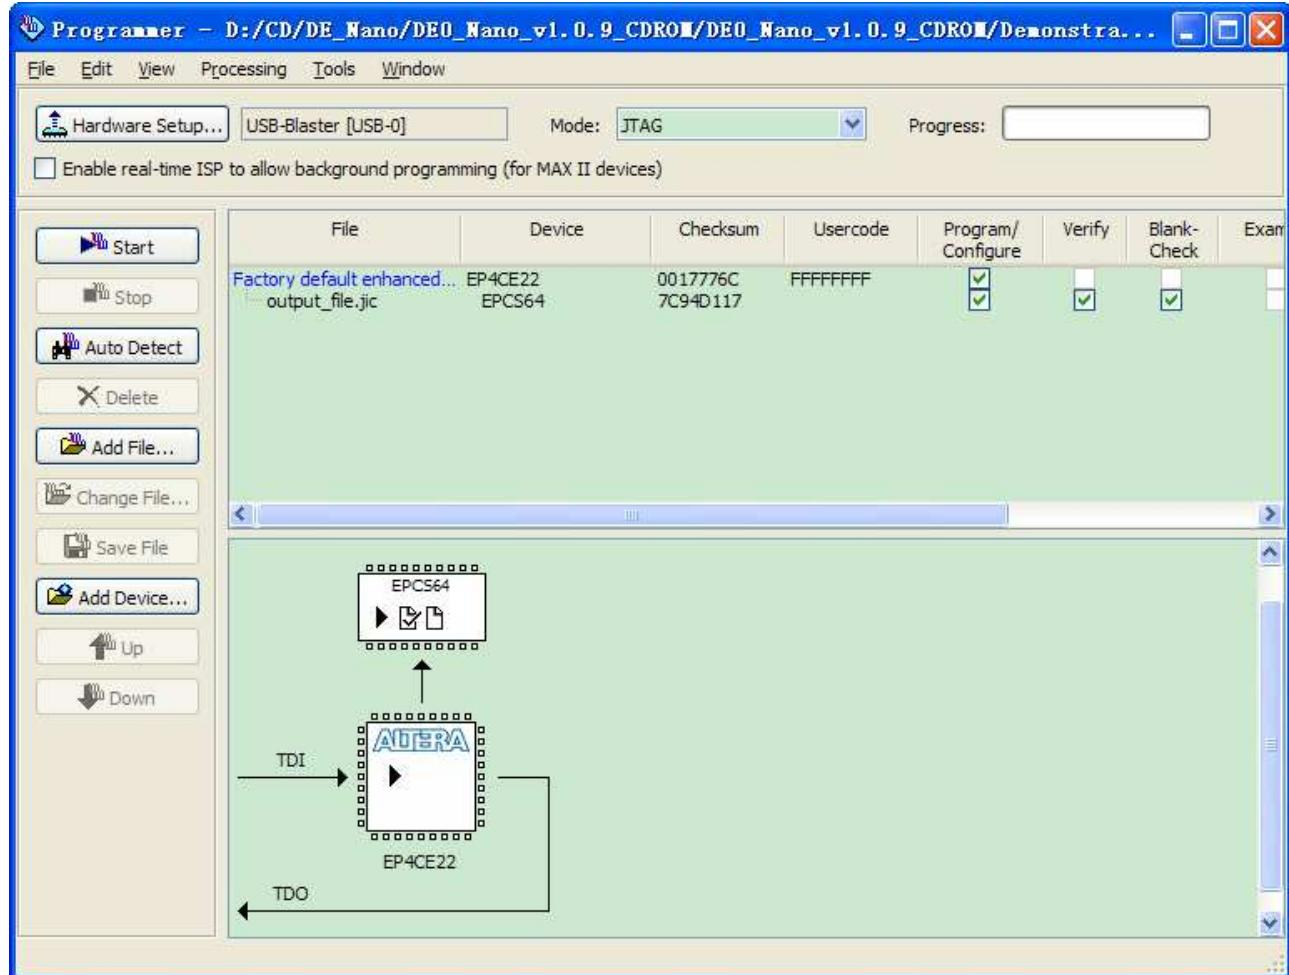

Figure 9-6 Quartus II programmer window with one JIC file
2. Program the serial configuration device by checking the corresponding **Program/Configure** box, a Factory default SFL image will be load (See Figure 9-6).